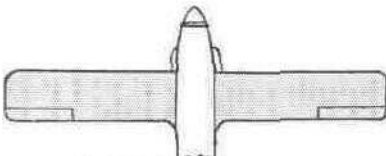

Fig. 15. No taper to wings.
- (a) No taper or unnoticeable taper (Fig. 15) as with the Fairey "Albacore."